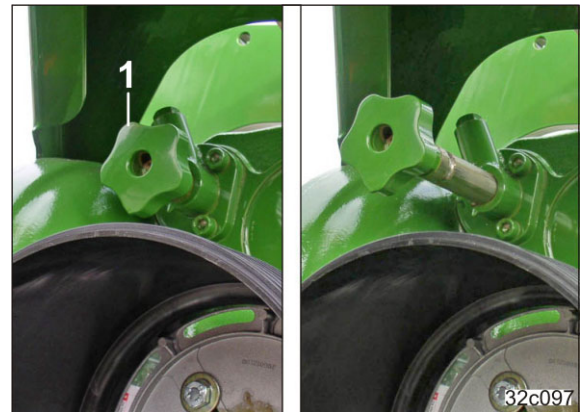

Fig. 32
- switching the gears with the gear lever (Fig. 32/1) in the two-gear gearbox